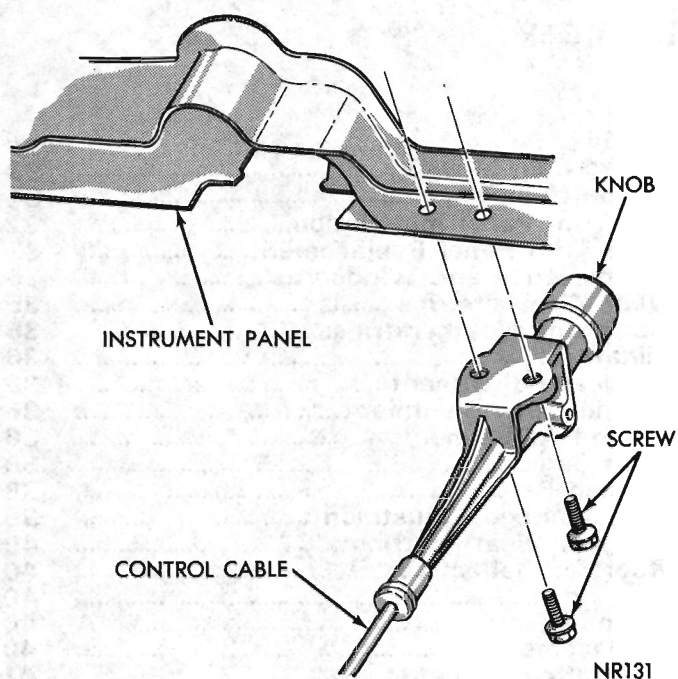
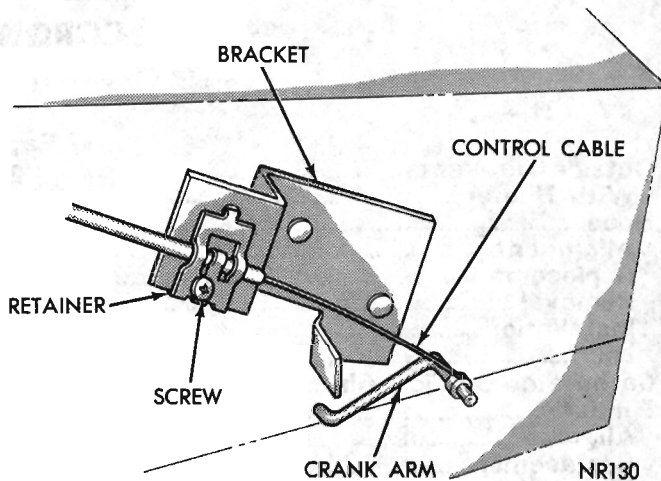

Fig. 1 - Control Cable Attachment
Fig. 2 - Control Cable Adjustment
The control cables are attached to the instrument panel lower flange with screws (Fig. 1). The lower end of the cables are retained on a mounting bracket with a clip and screw (Fig. 2). The right cable "looped" end is positioned on the air door control crank arm (Fig. 2).
(1) At lower end of cable, remove screw and clip retaining cable on mounting bracket (Fig. 2).
(2) Push control knob in fully and rotate air door control crank arm to the fully closed position.
(3) Position clip over cable and on mounting bracket. Install screw, tighten securely and test cable operation.